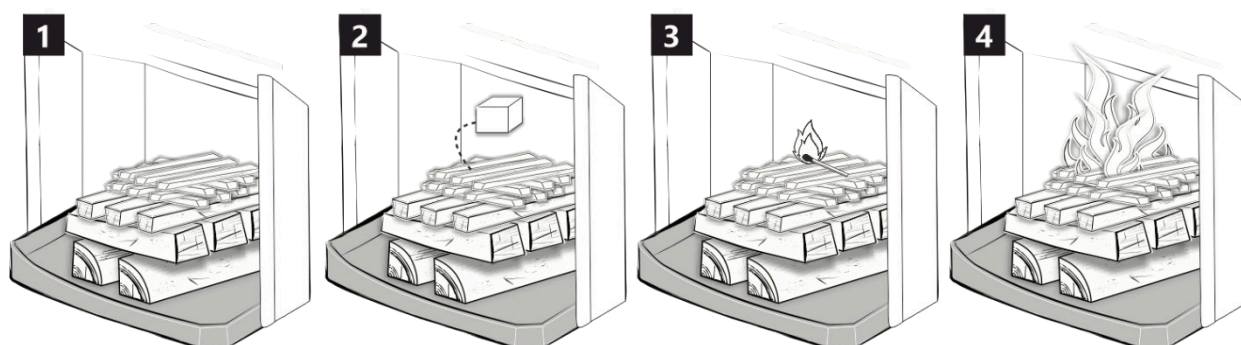

Fig. 3 – Ignition wood stocking
- Stack (according to the picture) the firewood + igniter on top between the chips (kindling, solid lighter, ...), light the wood and close the door – Fig. 3.